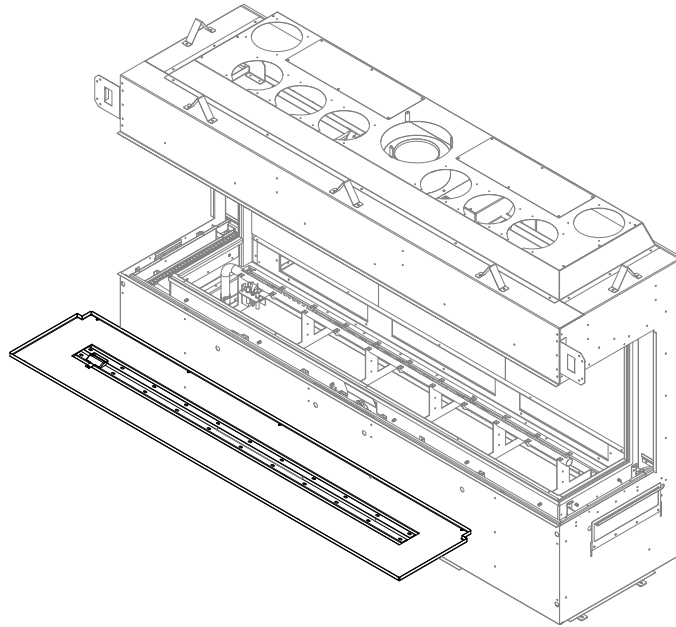

Figure 4.19 - Burner Media Tray and Burner Tube Removal
5. Remove all the sheet metal screws around the perimeter of the burner media tray and all sheet metal screws along the center of the burner. Remove the burner media tray and burner tube. Figure 4.19.